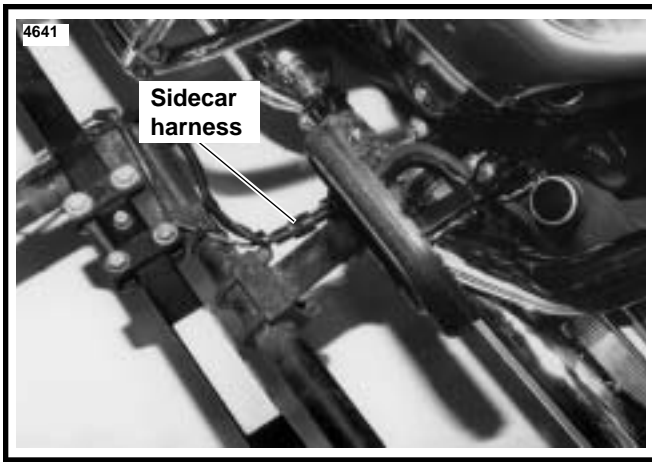

Figure 15. Sidecar Harness - 1992 and Earlier
8. See Figure 15. Route the sidecar harness and secure with cable straps, as shown. Install motorcycle seat and left side cover. Check to be certain motorcycle and side car lights are operating correctly.